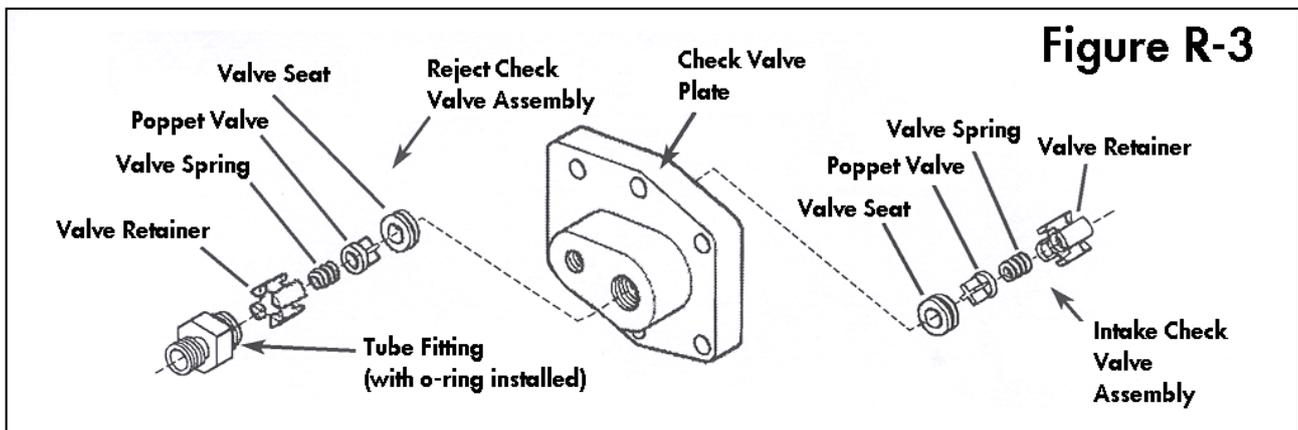

Figure R-3
seats, use an allen wrench (or similar flat-ended tool) to push each valve seat out of its bore, working from the opposite side of the bore from which the rest of the valve assembly was removed. See **Figure R-3**.
2. To install the check valve components, refer to **Figure R-3**. Locate the two new check valve seats in the *RSK*. Observe that the hole in the center of each valve seat has a beveled edge on one side. Use your finger to press a valve seat into the bore for the reject check valve assembly. The seat should be pressed all the way in, with the beveled side of the valve facing outward (that is, against the end of your finger). Use the same technique to install the other valve seat in the bore for the intake check valve assembly. It too should be installed with the beveled edge of the valve seat facing outward, or against your finger.